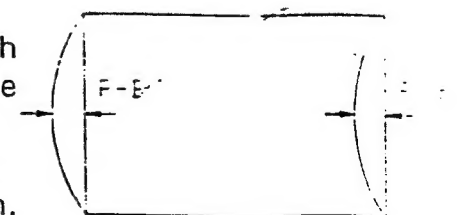

Figure 10
3. Press and rotate the Encoder to let $P-B \leq 1.5$ mm. (See Fig 10).